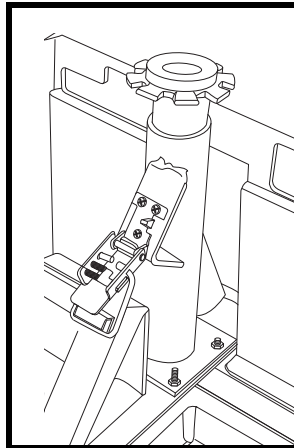

Figure 15A. Toggle Latch (Unlatched)
5. Latch the toggle latch. See figure 15A.